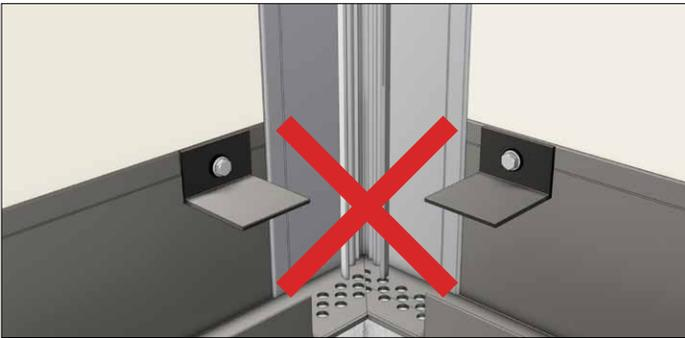

Figure 17.2
7. Do not overlap trims. (Figure 17.2)